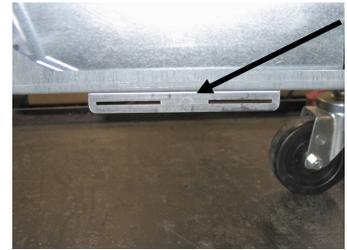

Figure 1: Attach alignment bracket to bottom of ATO box brace.
2. Attach alignment bracket to bottom of ATO box brace with provided nuts. See Figure 1.